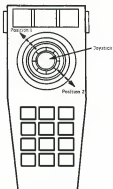

Figure 6-2. Joystick Positions 1 & 2
- 2) Press key 5 and then press START to bring up the Pokey Adjust Screen.
- 4) Move the controller joystick to position 1, as illustrated in Figure 6-2 below. The readings on the screen should be less than 25 for Port 1 (Port 1 - Horizontal and Vertical).
- 5) Move the controller joystick to position 2, as illustrated in Figure 6-2. The readings on the screen should be greater than 190 for port 1.
Use Figure 6-2 on Page 6-3 as reference for Steps 1 and 2.
- 5) Move the controller joystick to position 1 (refer to Figure 6-2). Use an Ohm meter to determine the pot readings through the cable (cable connector Pins 11 & 9 and 10 & 9). The pot reading should be no greater than 50K Ohms.
- 6) Move the controller joystick to position 2 (refer to Figure 6-2). The pot reading through the cable (connector Pins 10 & 9 and 11 & 9) should be at least 930K Ohms greater than in position 1.